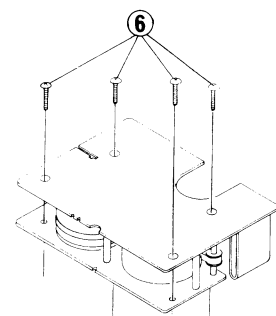

Fig. 11
1. Pull out reel stoppers ① and ②.
5. Removing the DD motor (Fig. 11)